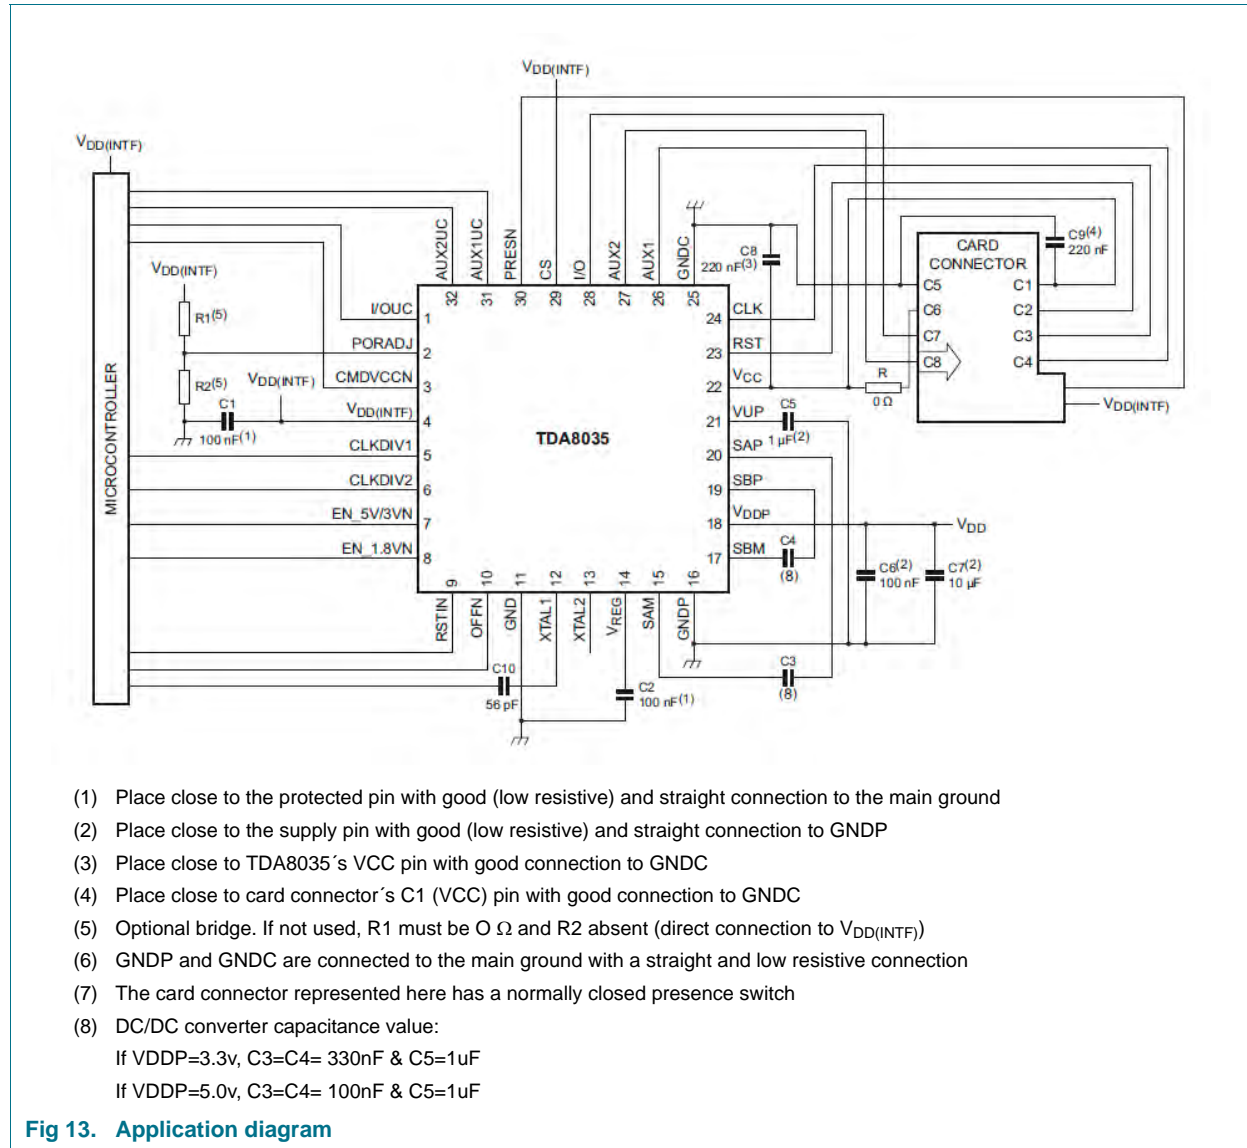

Fig 13. Application diagram
Modifications:	<ul style="list-style-type: none"> • Table 3 "Pin description": updated • Section 8.1 "Power supply": updated • Table 7 "Characteristics of IC": updated • Figure 13 "Application diagram": Table note (7) added